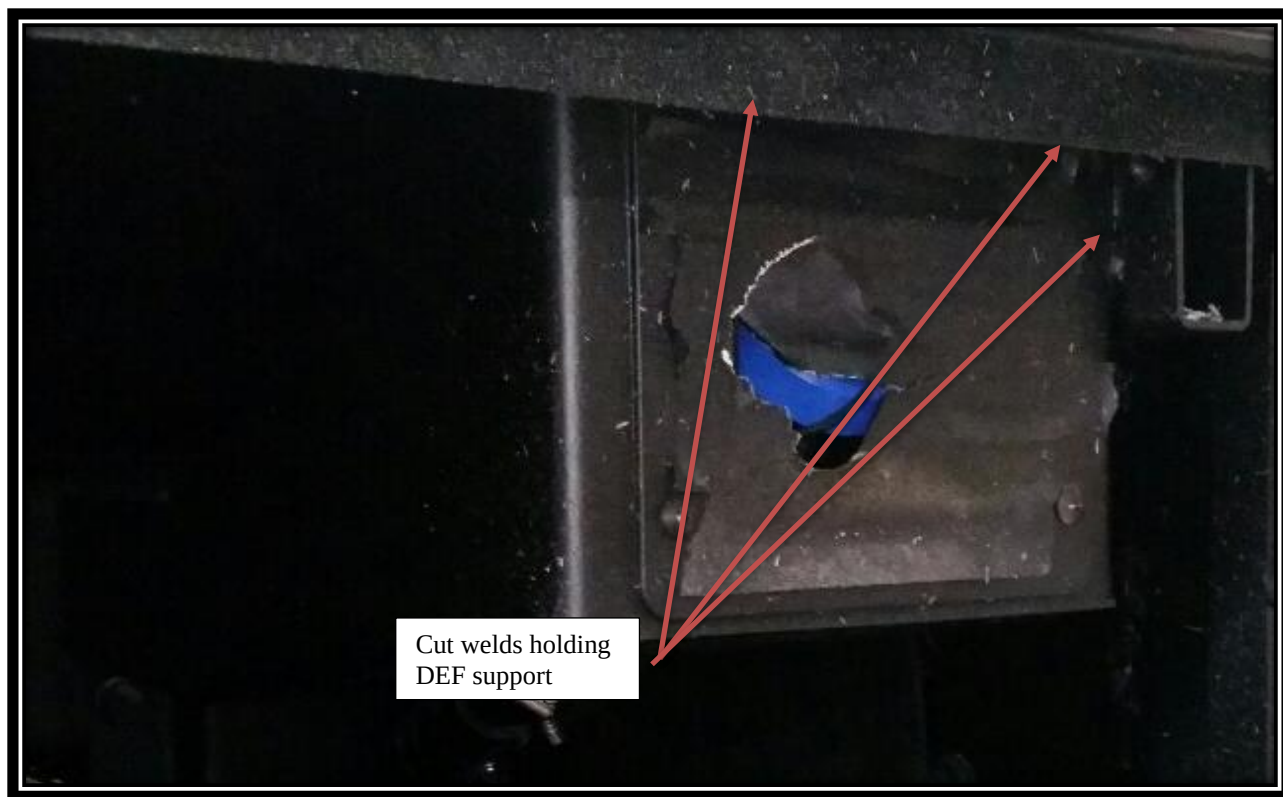

FIG. 6-1
8. Carefully cut welds holding DEF support bracket to body structure and remove and discard support, cut-off wheel or reciprocating saw preferred. Use caution to avoid damaging body, hoses, or wire harnesses that maybe routed near welds. Refer to FIG 6-1.
12. Weld new DEF support bracket into body using same weld locations as was used with damaged bracket. A minimum of (3) 1/8" fillet welds x 1.0" long will be required for installation of DEF fill bracket. Refer to FIG 6-1